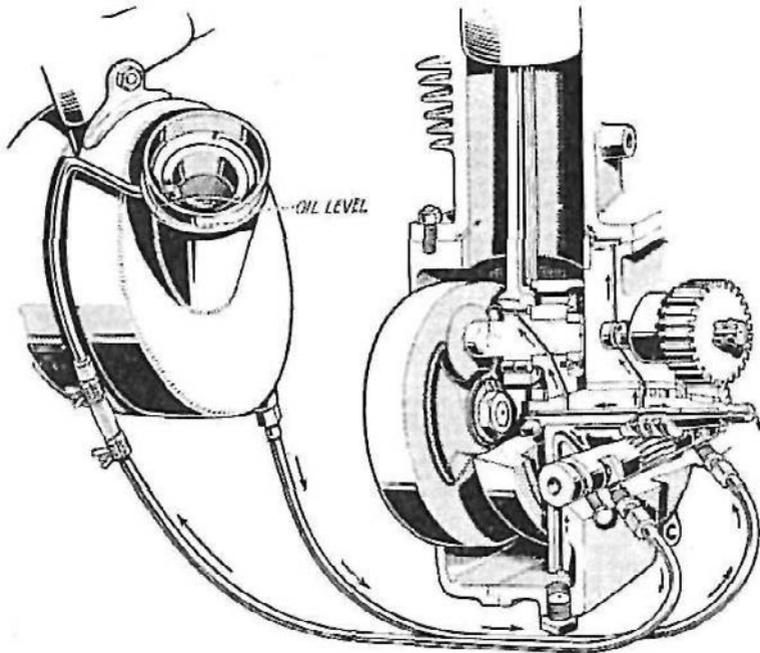
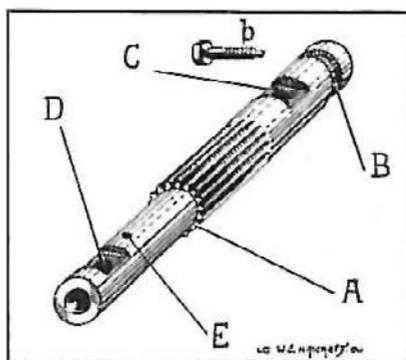

FIG. 50. DIAGRAM SHOWING THE OIL CIRCULATION IN THE DRY SUMP LUBRICATION SYSTEM
Fig. 51. THE OIL-PUMP PLUNGER
**The Double-acting Oil Pump.** A general description of the Matchless dry sump lubrication system has already been given on page 14, and Fig. 50 shows how the oil is circulated in a single-cylinder Matchless engine. It remains to deal with the action of the pump itself. As already mentioned on page 14, the pump has only one moving part—a steel plunger driven at  $\frac{1}{15}$  engine speed by a worm cut on the engine mainshaft. This plunger slowly oscillates to and fro, its precise travel being determined by the relieved end of a guide screw (*b*, Fig. 51) screwed into the rear of the pump housing and engaging with a profiled cam groove at
The two main ports are shown at *D* and *C*, and the small auxiliary port at *E*, Fig. 51. The main ports are known as the *delivery* port and the *return* port respectively. They comprise two shallow segments cut in the pump plunger body and communicating with the hollowed ends of the plunger by two holes. The auxiliary port comprises simply an  $\frac{1}{8}$  in. diameter hole drilled at the back of the main delivery port segment. The plunger itself, as mentioned on page 14, has two diameters and, therefore, the capacity of the return portion of the pump is greater than that of the delivery portion, so that the sump is always kept clear of
oil. Fig. 50 enables the action of the pump to be understood. Oil flows by gravity, assisted by suction, from the tank to a point in the pump housing, such that no further passage can take place until the plunger has moved to a point, approximately, as shown when oil flows into the hollowed end *via* the cut-away segment constituting the delivery port. Then as the plunger continues to advance with simultaneous reciprocation, the oil which has completely filled the hollowed end is momentarily retained and the bulk of it finally ejected by displacement from this port into an oil passage opposite the point of entry, and forced to the cylinder walls and main engine bearings. During the advance of the plunger culminating in the automatic injection of fresh oil into the engine, the receding of the large end of the plunger causes a strong vacuum directly opposite an oil passage leading from the sump base, and communicating with the plunger interior only when the return port is in a suitable position. All surplus oil in the sump is, therefore, sucked up as the plunger advances, and retained when the port closes until the plunger begins to reverse its motion when, the return port coming into line with the return pipe passage, the oil is forcibly ejected by displacement into this pipe and so to the oil tank where its intermittent emergence can, if a sight-feed is not provided, be observed. (See page 03.)